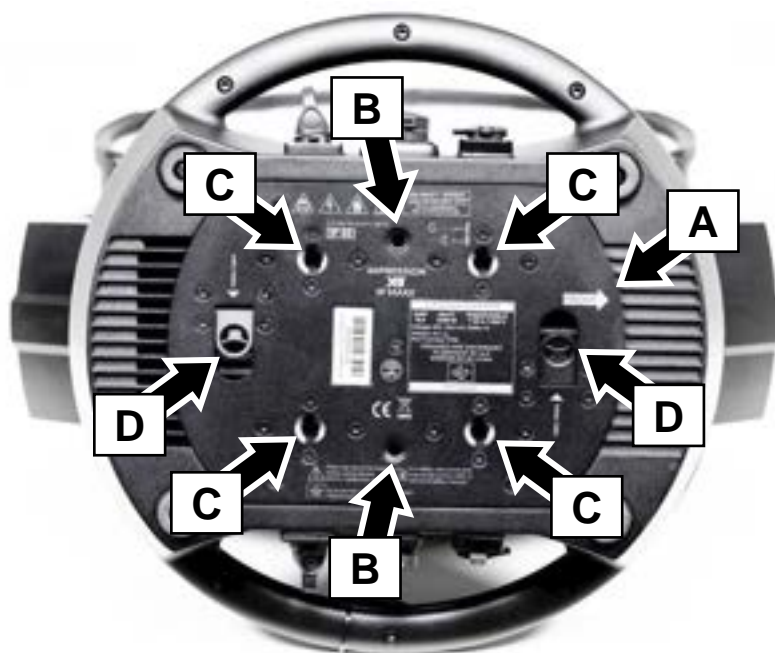

Figure 2. Fixture baseplate
See Figure 2. An arrow **A** marked FRONT is printed on the baseplate. Install the fixture with this arrow pointing towards the stage or main target.
2. See Figure 2. Fasten the bolts through the half-coupler clamps and into the M10 threaded holes **B** in the fixture's baseplate so that the clamps are held securely.
2. See Figure 2. Line up the camlock quarter-turn pins in the omega brackets with the camlock fastener points **C** in the base of the fixture and turn the four camlock locking levers a full 90° clockwise to lock the brackets to the fixture.
1. See Figure 2. Pass the safety cable through one of the two safety cable attachment points **D** in the base of the fixture. Do not use either of the fixture's handles for safety cable attachment. Do not use an omega bracket installed on